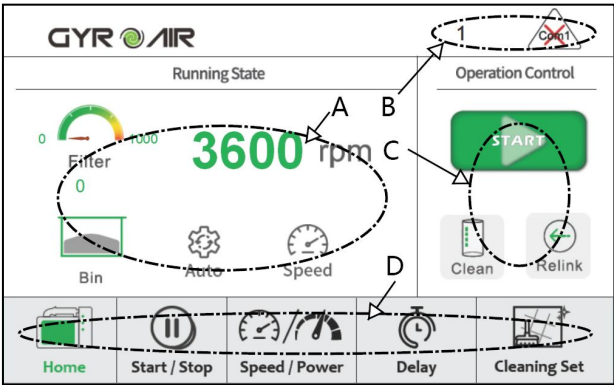

Fig.10
5.1 Touch Screen Operation Instruction (Fig. 10)
When the power is connected, the touch screen will light up and the main interface will display (as shown in Fig.10).The touch screen has four sections: